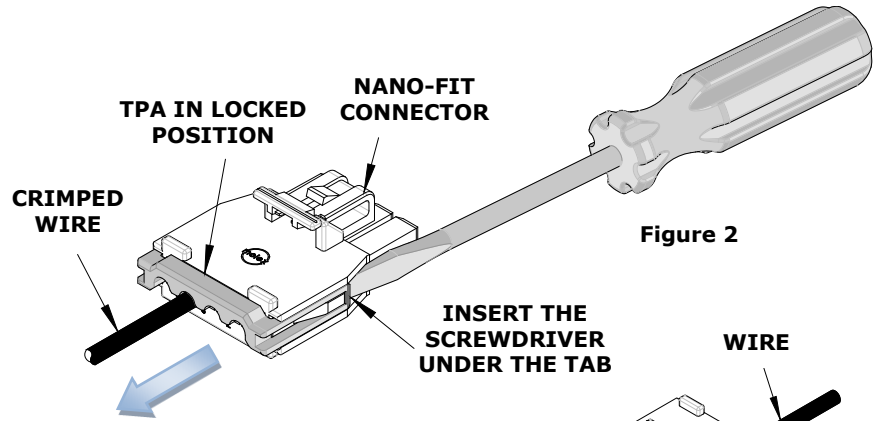

Figure 2
- Using a small screwdriver, insert the flat edge under the tab of the TPA lock. See Figure 2.